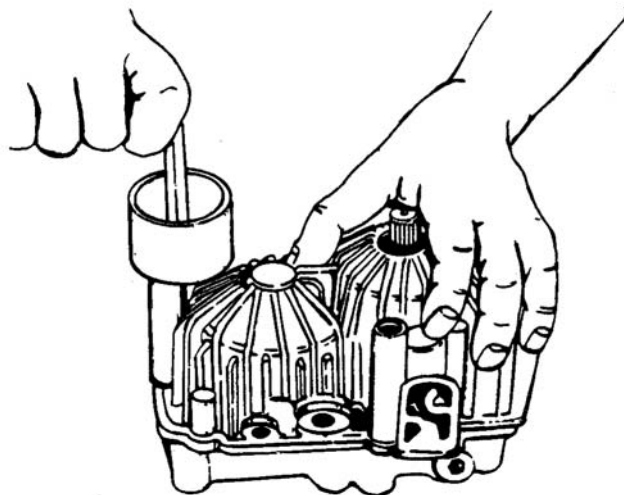

Figure 6-76. Installing Oil Tank Assembly
- a. Screw oil tank onto the housing. See Figure 6-76.